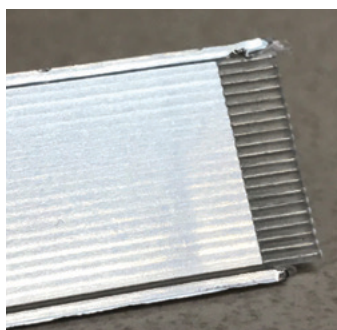

Figure 14
- Any remaining foil covering on sides of prepared cable should be removed. See Figure 14.